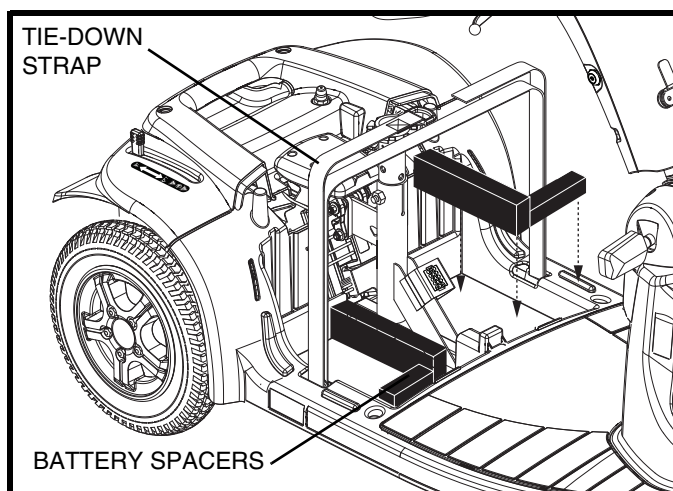

Figure 27. Battery Spacers
NOTE: If spacers are installed to secure the batteries, remove the spacers for safe keeping until the scooter is reassembled. See **figure 27**.
6. Reinstall the battery spacers if applicable. **See figure 27.**